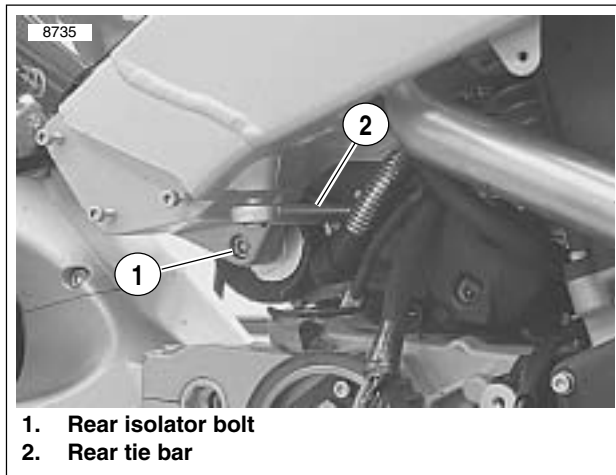

Figure 3-7. Rear Isolator Bolt and Rear Tie Bar
24. See Figure 3-7. Remove rear tie bar from frame only.